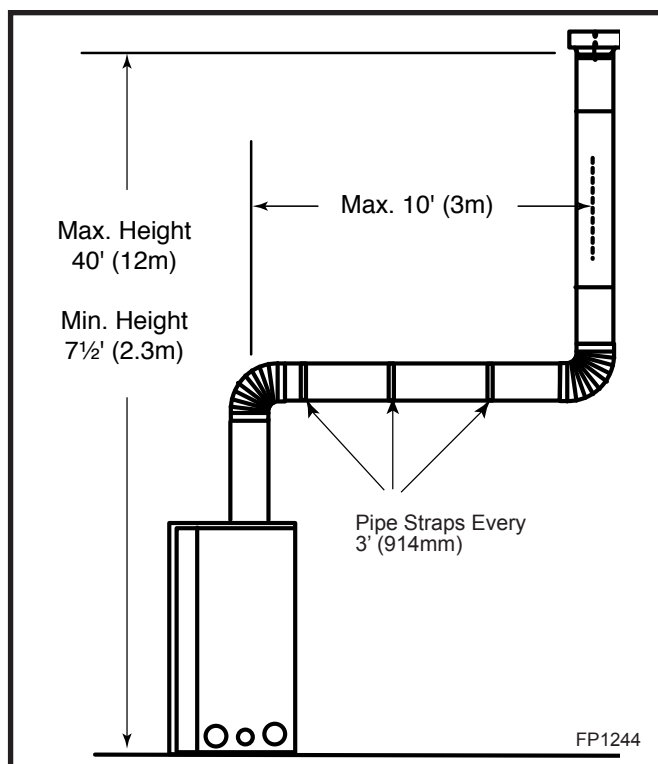

Fig. 55 Support straps for horizontal runs.
- Vertical installations up to 40' (12 m) in height. Up to a 10' (3 m) horizontal vent run can be installed within the vent system using a maximum of two 90° elbows. (Fig. 55)